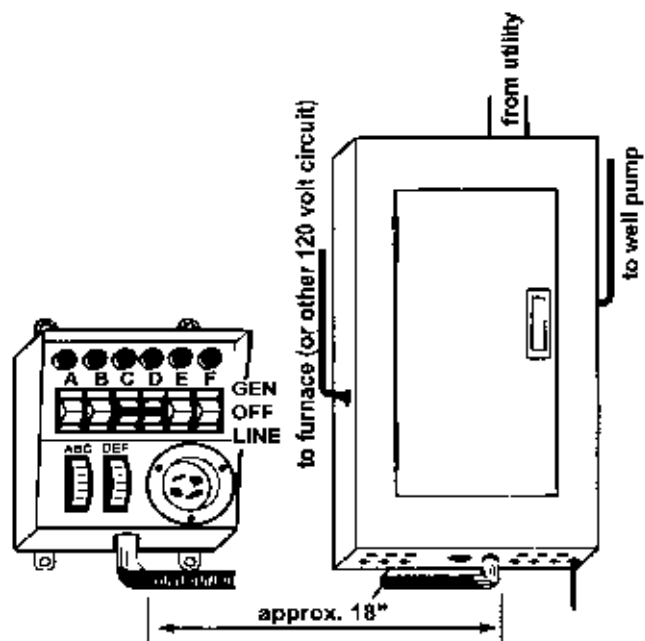

Figure 2
3. Locate and remove a knockout (ko) in the bottom of the load center (*Figure 2*). Use a 1/2" ko for 4-circuit models, a 3/4" ko for 6-circuit models, and a 1" ko for 8-to 10-circuit models.